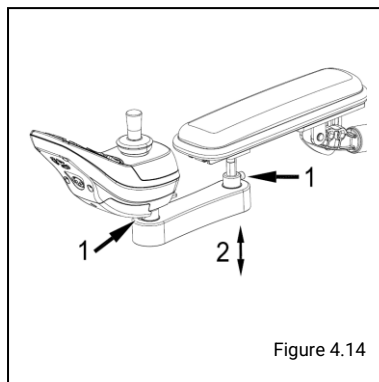

Figure 4.14
**Remote height setting (fig 4.14).**